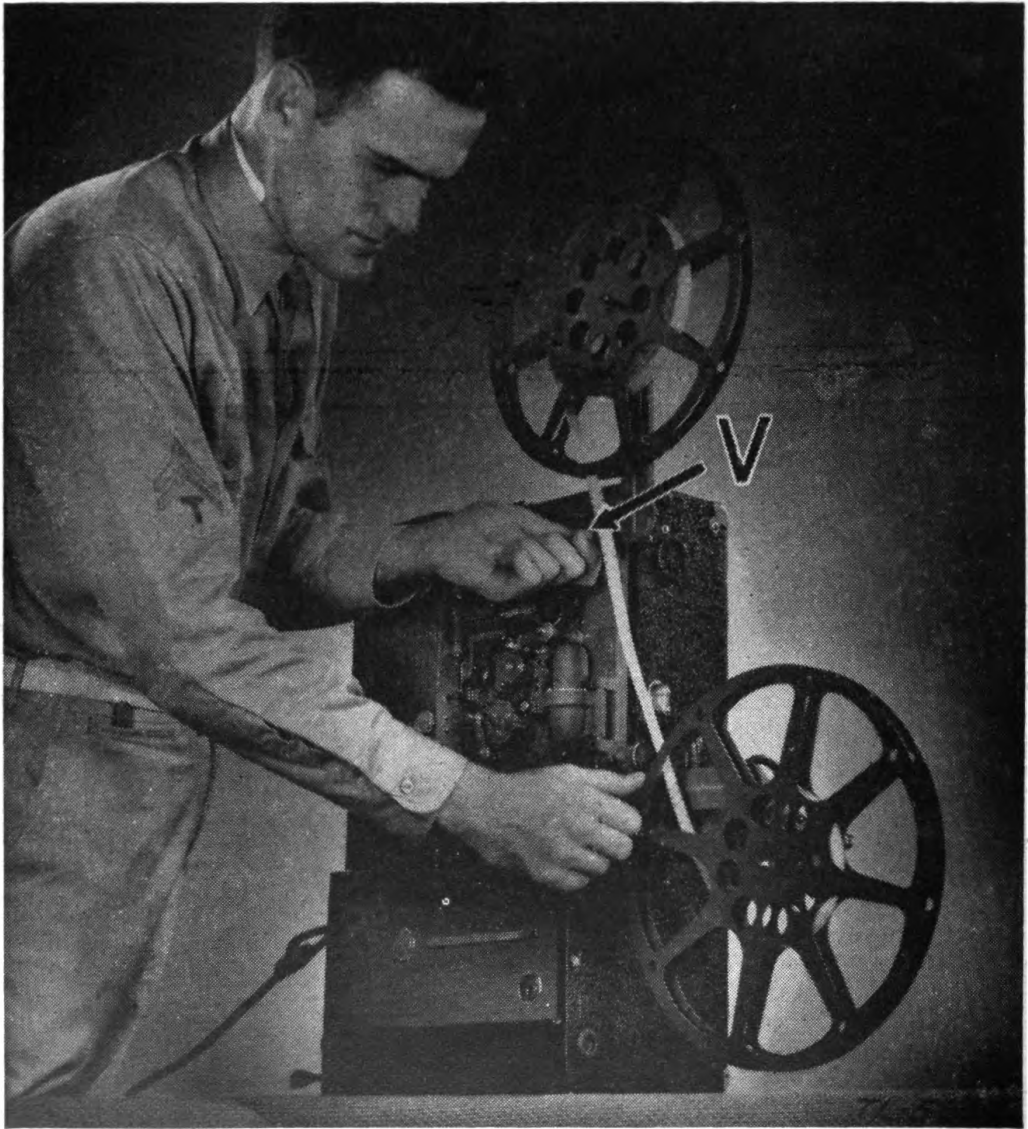

FIGURE 23.—Rewinding *R. C. A.* projector.
(4) *R. C. A.*—To rewind the *R. C. A.* projector, loop the free end of the film around the feed reel, turn rewind switch *V* to "Rewind" position, and start projector motor. (See fig. 23.)